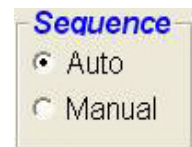

Figure 14
2. Next select the Auto Sequence Start button to start the measuring process. The program will first step you through the measuring process of the 4 setup points. See Figure 14, Auto button contains purple colored arrow.